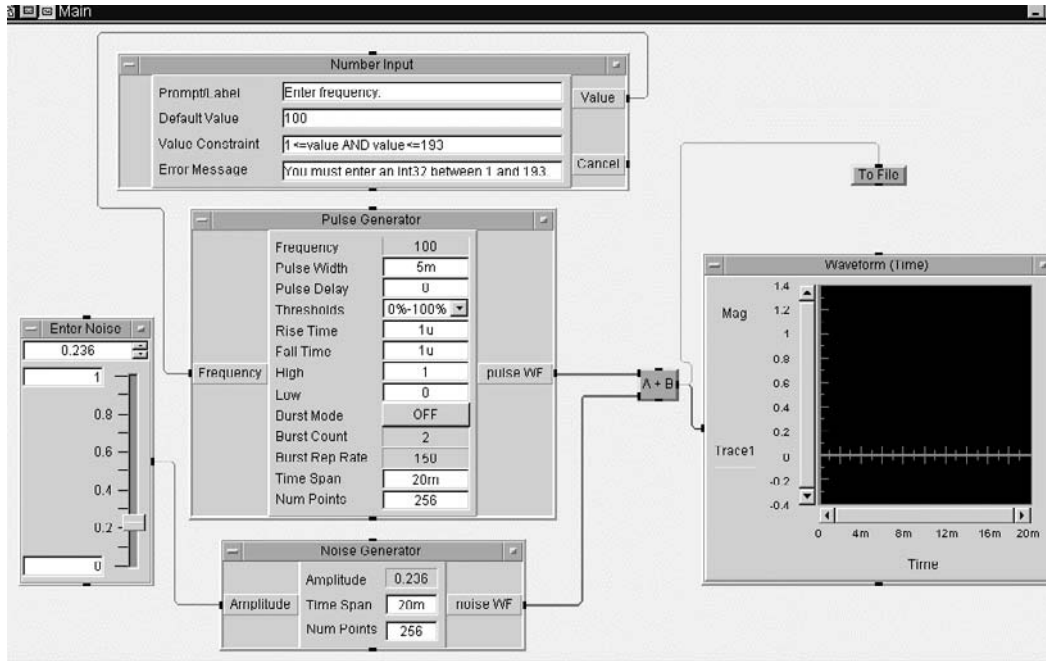

Figure 17.3. A Panel on a Main Panel
- A Panel on the Main Panel – A panel on a UserObject that is added to the Main Panel. This method is used to combine subprograms. See Figure 17.3.